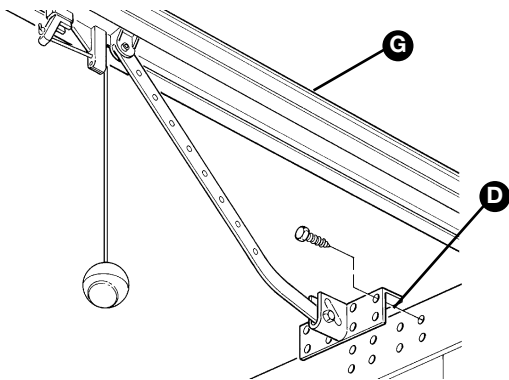

Figure 32
**8** Slide the carriage until the door mounted bracket [D] shown in Figure 32 is positioned on the upper edge of the door, exactly perpendicular to the guide [G].